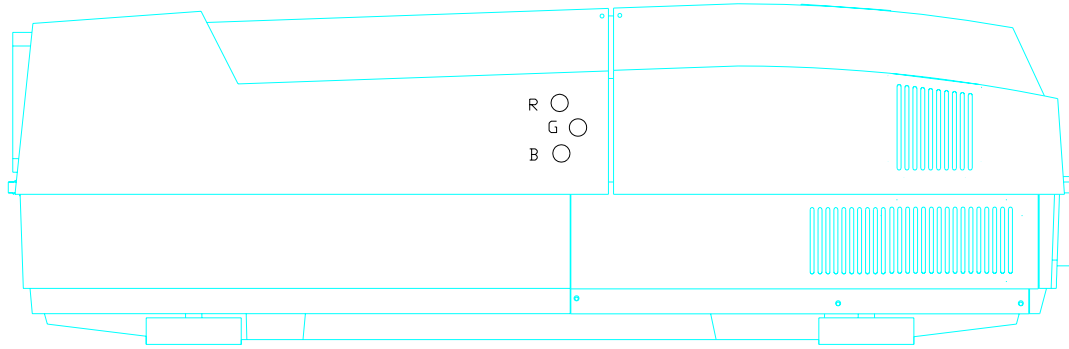

Figure 3-6. RGB Electronic Focus adjustments.
4. Adjust the Green Electronic Focus (*Figure 3-6*) for a sharp focus of the H pattern at the center of the screen.